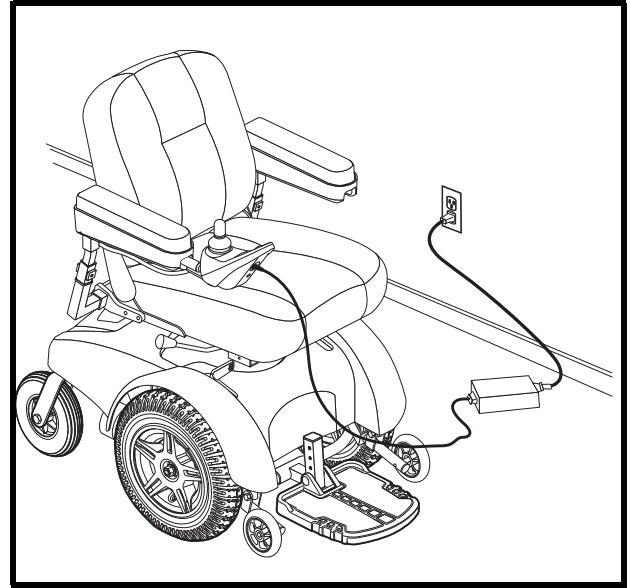

Figure 19. Off-board Battery Charging
1. Position your power chair next to a standard electrical outlet. See figure 19.
4. Plug the off-board charger into the electrical outlet. See figure 19.